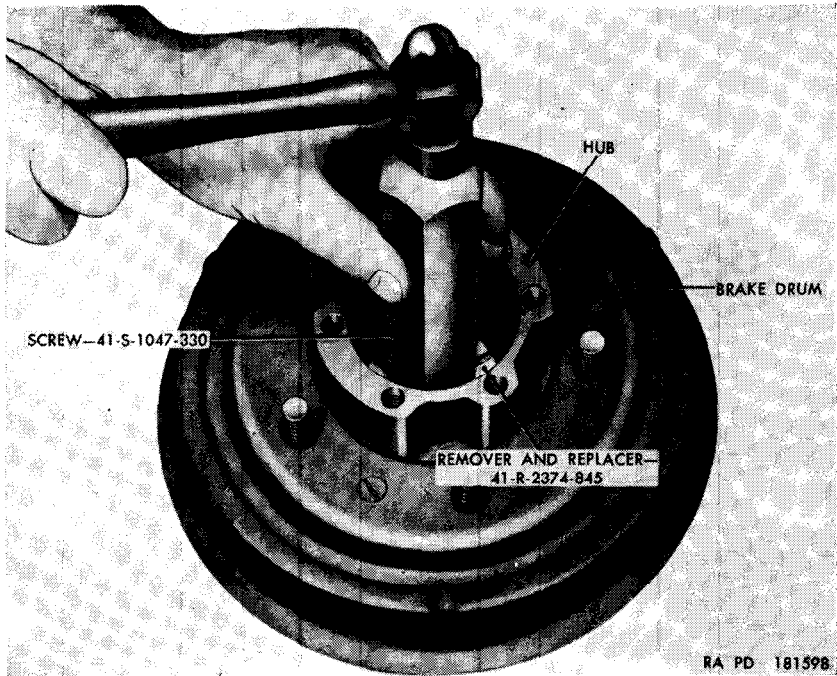

Figure 102. Removing front hub bearing cup with remover and replacer 41-R-2374-845 and screw 41-S-1047-330.
a. Adjustment. Place a jack under the axle and raise vehicle until wheels are clear of ground. Test axle shaft end play by grasping wheel and moving in and out. If the bearings are correctly adjusted, end play will be just perceptible. If end play is not correct proceed as shown in (1) through (13) below.
- (4) Position remover and replacer 41-R-2374-845 and screw 41-S-1047-330 (fig. 102) in the hub and drive out hub inner bearing cup. Reverse the hub, position remover and replacer 41-R-2374-845 and screw 41-S-1047-330 in hub and drive out hub outer bearing cup.
- (1) Position the hub outer bearing cup (fig. 99) in the brake drum side of the hub. Install the remover and replacer 41-R-2374-845 and screw 41-S-1047-330 (fig. 102) in the hub and drive cup into position.
- (2) Position the hub inner bearing cup (fig. 99) in the brake assembly side of the hub. Install the remover and replacer 41-R-2374-845 and screw 41-S-1047-330 (fig. 102) in the hub and drive cup into position.